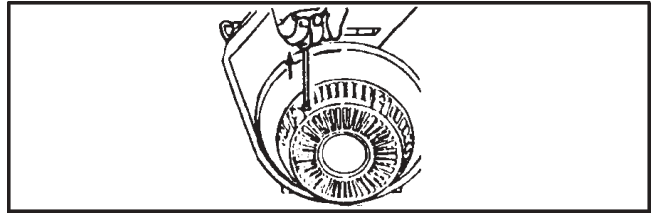

Figure 3-5. Recoil Starter - Vanguard Engine
2. Place the gearshift in the neutral (N) position. Engage the hand lever parking brake (All R, B, and N models). To engage parking brake on S models see Holding Brake System - Vanguard.
5. Grasp starter grip as illustrated and pull slowly until recoil engages (Figure 3-5).